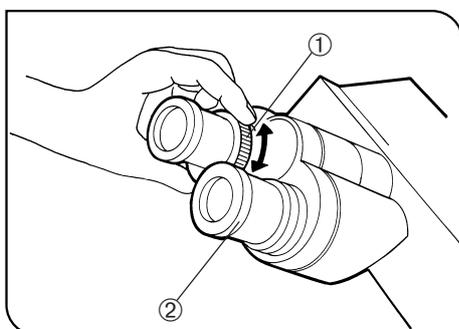

Fig. 19
2 Adjusting the Diopter (Figs. 19 & 20)
2. Looking through an eyepiece sleeve with the diopter adjustment ring ① turn only the ring to focus on the specimen. (Fig. 19)
1. Looking through the right eyepiece with your right eye, turn the top of the eyepiece ② until a clearly defined double crosslines can be seen in the field of view. (Figs. 19 & 20)
3. Looking through the left eyepiece with your left eye, turn the diopter adjustment ring ① to focus on the specimen.